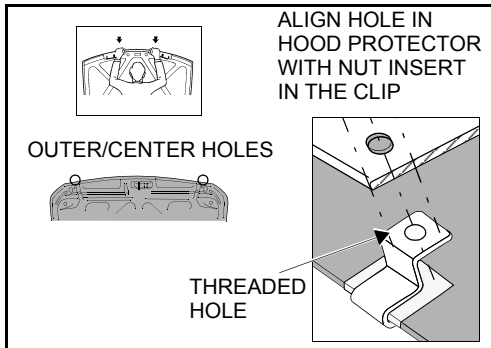

Figure 5.
5. Align the holes in the Hood Protector with the threaded nut insert holes in the clips, as shown in Figure 5. Loosely secure the Hood Protector with small screws and washers provided.